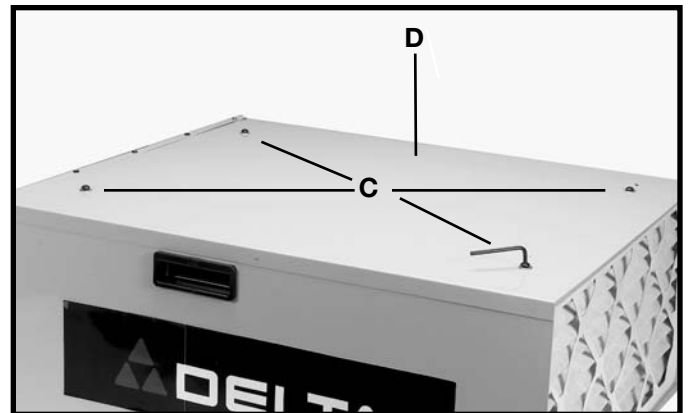

Fig. 5
2. Use a 5/32" Allen wrench (not supplied) to remove the four screws, (C) Fig. 5 from the top of air cleaner (D).